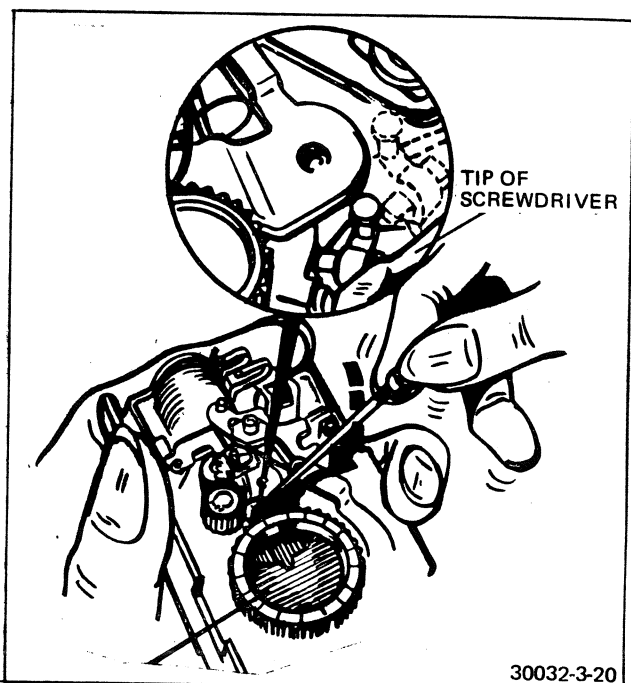

FIGURE 3-20 JEWELER'S SCREWDRIVER IN WALKING BEAM
2. Use a jeweler's screwdriver and manually actuate the walking beam assembly (Figure 3-20)